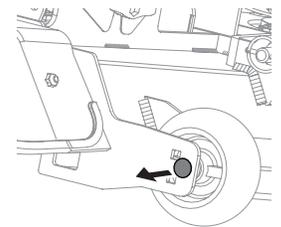

Figure 11
- Remove deck wheel and bolt on discharge side (front right). See Figure 11.